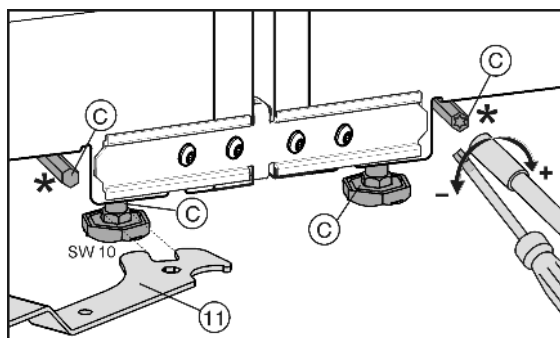

Fig. 8
You can adjust the front height-adjustable feet with the open-ended spanner Fig. 8 (11) included in the supply package, and the rear height-adjustable feet* with a Torx® 25 screwdriver.